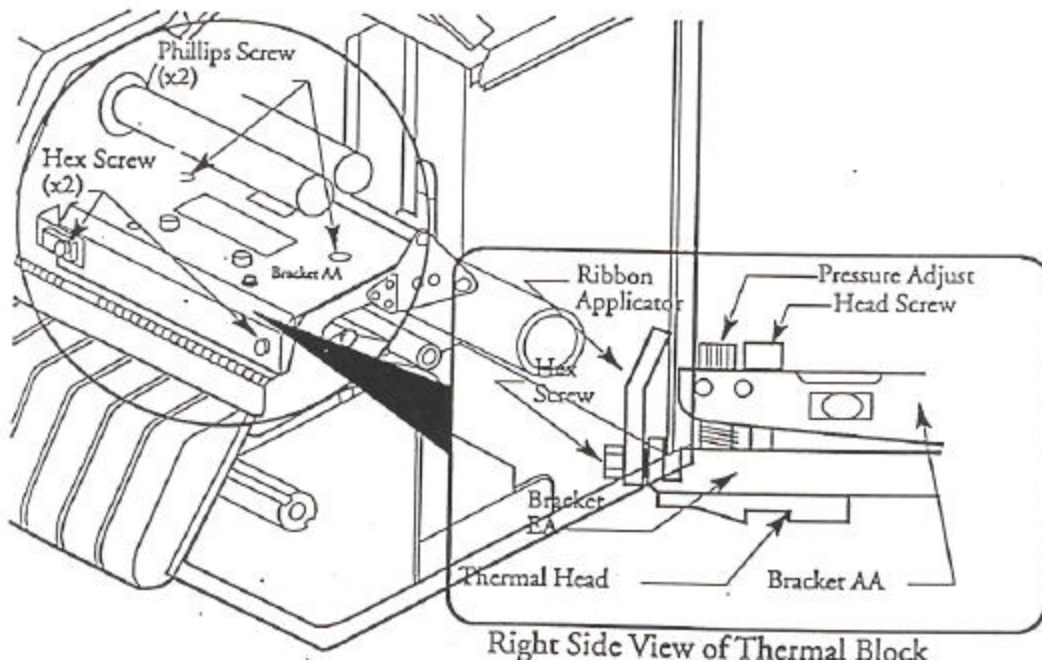

Figure 9. Thermal Head Positioning
5. Push both wires and thermal head back to original position on bracket EA. Bracket EA has two locations on its underside to locate the head position correctly (see Figure 9, page 17).